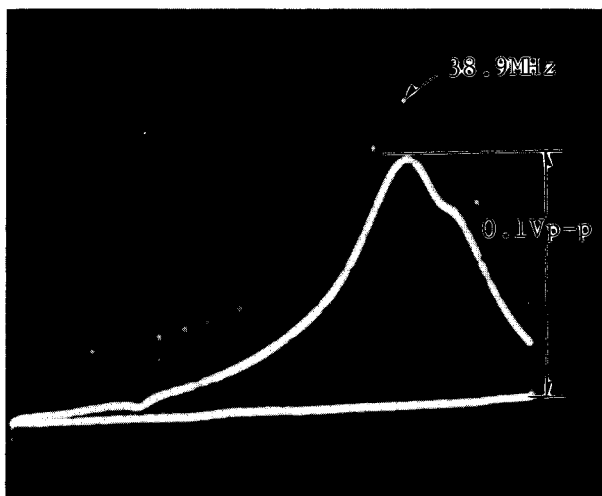

Fig. E6.
8. Adjust T705 so that the marker position of 38.9MHz becomes maximum as shown in Fig. E6.